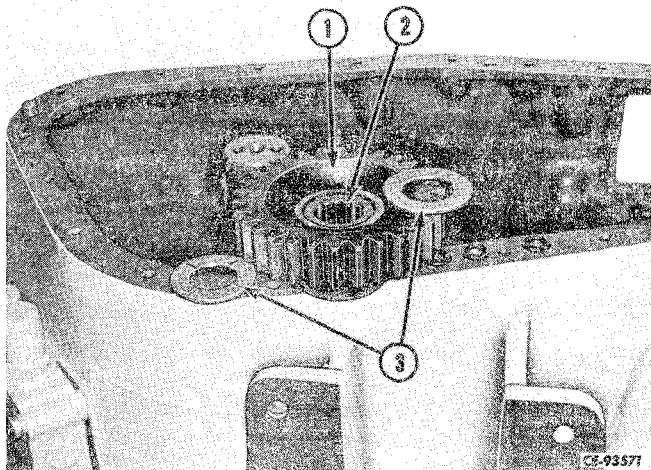

Figure 4-68
Start reverse idler shaft part way up from bottom of housing. Place one washer (3, Fig. 4-68) on shaft with grooves up (toward gear). Install reverse idler gear (1) with roller bearing (2) over washer and shaft with gear end up. Position the other washer (3) on top of gear with grooves down (toward gear).